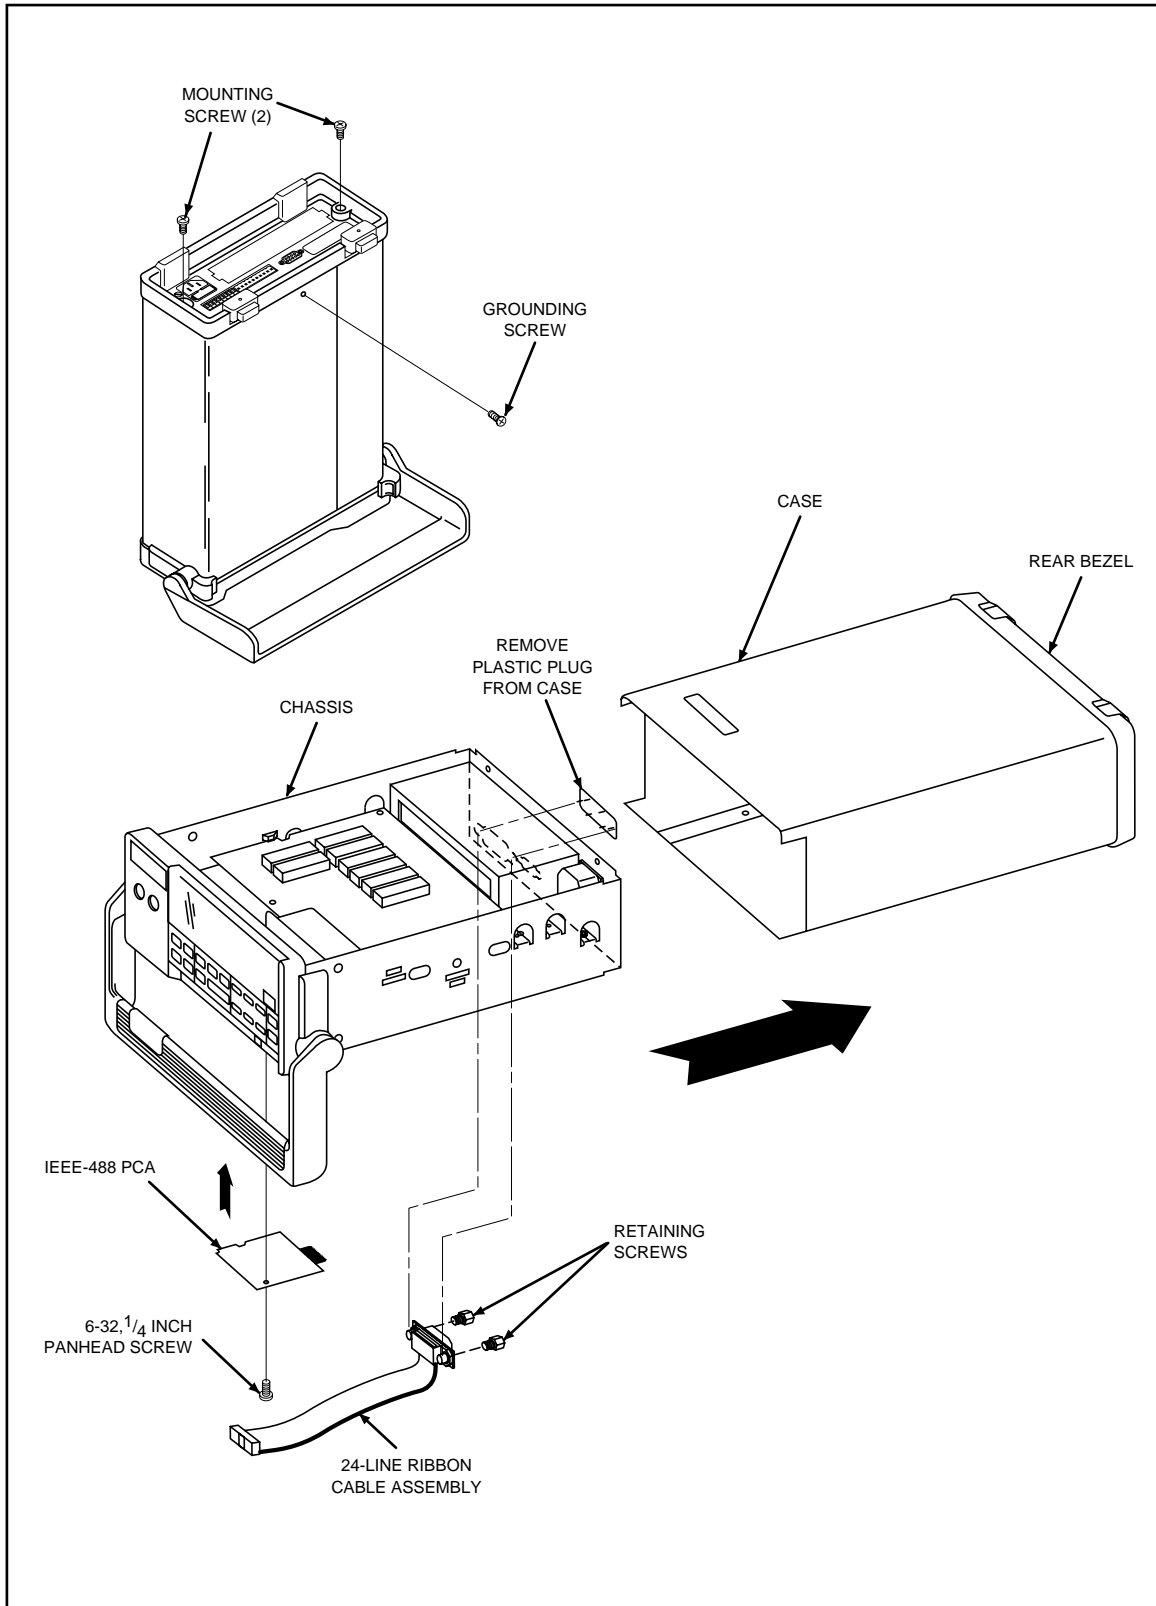

Figure 7-1. Installation
Remove the instrument cover as shown in Figure 7-1. Then remove the IEEE-488 Option with the following procedure:
1. From the bottom of the instrument, locate the IEEE-488 PCA (N). This pca is connected to the front of Main PCA, with a ribbon cable (O) leading across both pca's to the Rear Panel. Refer to Figure 7-1.
3. Remove the 6-32, 1/4-inch panhead Phillips screw (P) securing the IEEE-488 PCA. See Figure 7-1.